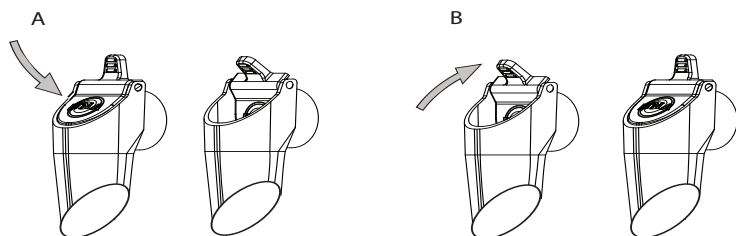

Figure 3-1
2. Close the container outlet by pushing the valve until it clicks shut (A) (see figure 3-1).
8. Open the container outlet by pushing the tab until it clicks open (B) (see figure 3-1).